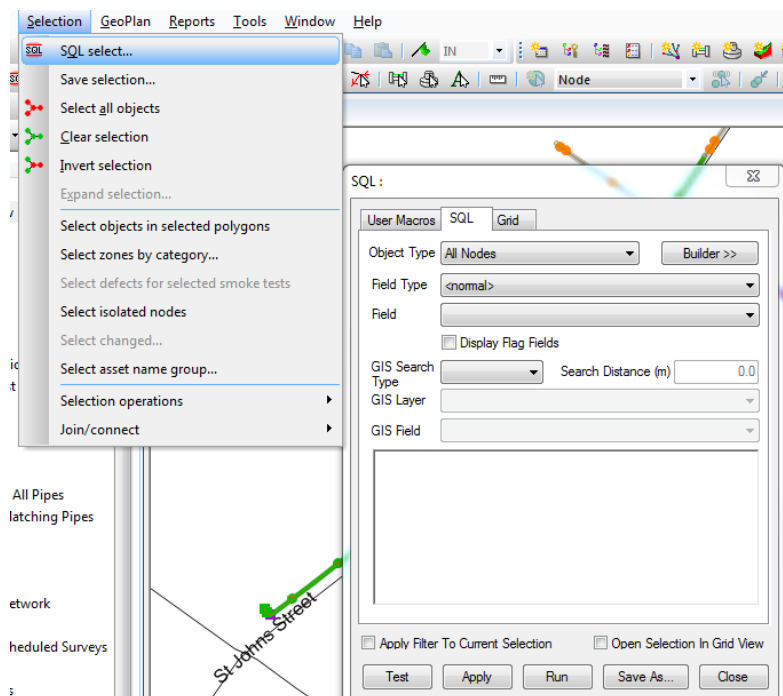

Figure 6 - Infonet Screenshot 1
5. Selection -> SQL Select. See Figure 6 below.